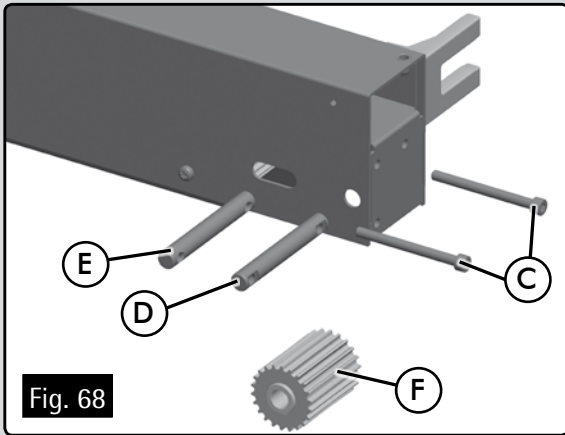

Fig. 68
- Remove the tightening screws C (Fig. 68), remove the tightening rod D, the feed roller rod E and the feed roller F (Fig. 68).
- Mount the feed roller F (Fig. 68) and its shaft E, keeping in mind that it is divided into two parts. Be careful to mount it with the bearings towards the outside of the roller.
- Mount the tightening rod D (Fig. 68) and the two tightening screws C.